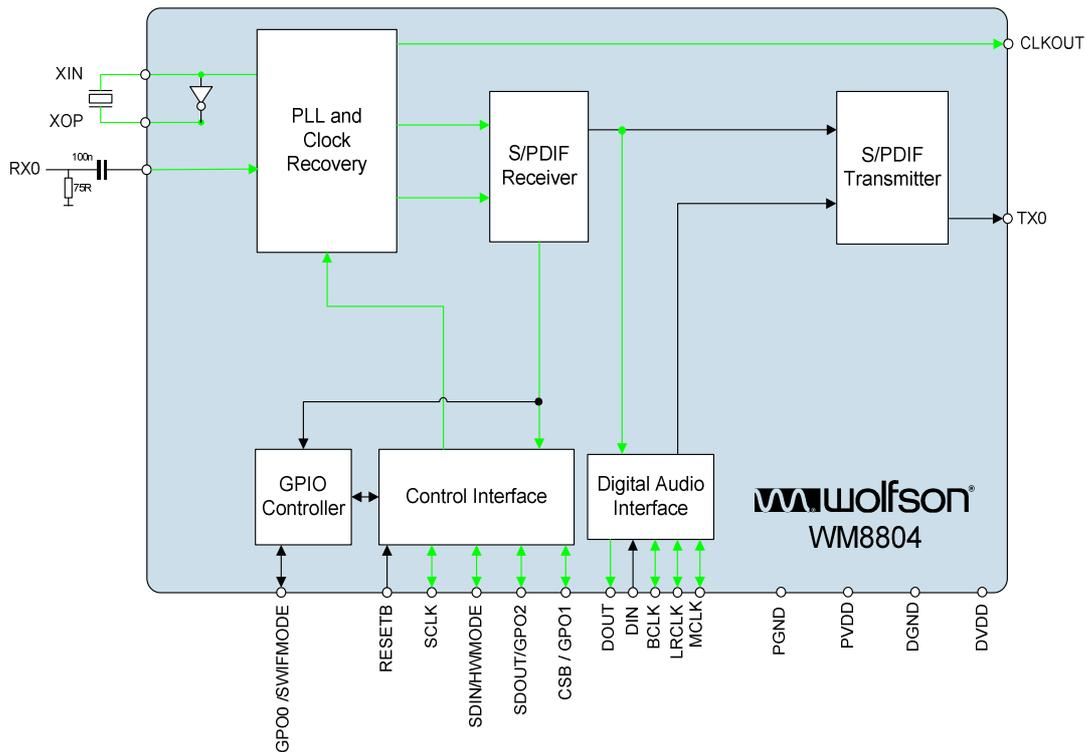

Figure 7 S/PDIF Rx0 to Audio Interface Block Diagram
- Figure 7 illustrates the data path.